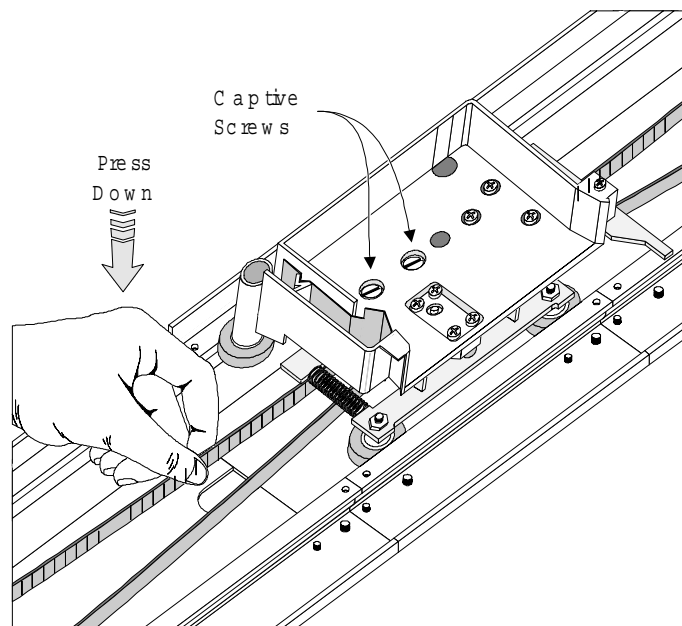

Figure 2-9 Aligning the Captive Screws With the Block
14. Locate the spring-loaded wheels of the car. Referring to Figure 2-9, engage the spring-loaded wheels in the track, while positioning the car so the captive screws are directly over the holes in the belt block. *Note:* Figure 2-9 omits the door on the car for clarity. *Do not remove the door.*
3. Referring to Figure 2-9, open the door of the car to gain access to the captive screws. *Do not remove the door.* Loosen the captive screws until they are disengaged from the belt block.